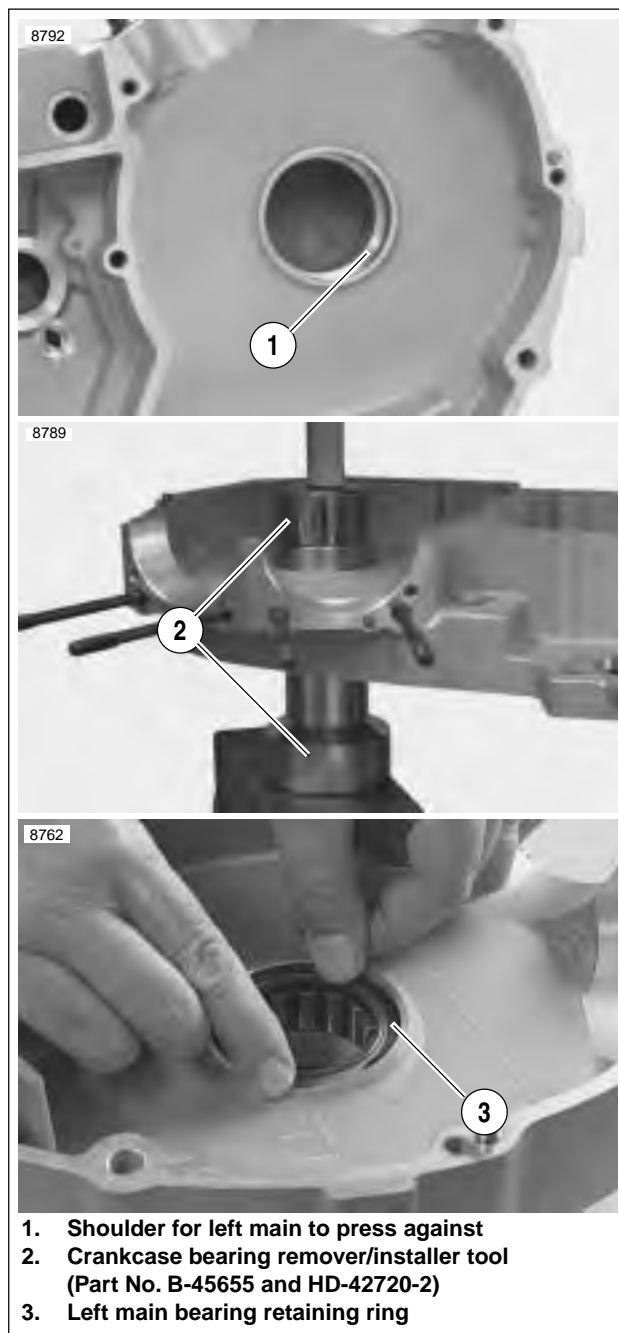

Figure 3-150. Left Main Bearing Installation
1. See Figure 3-150. Using CRANKCASE BEARING REMOVER/INSTALLER (Part No. B-45655 and HD-42720-2), install left main bearing into left crankcase half from the inside.